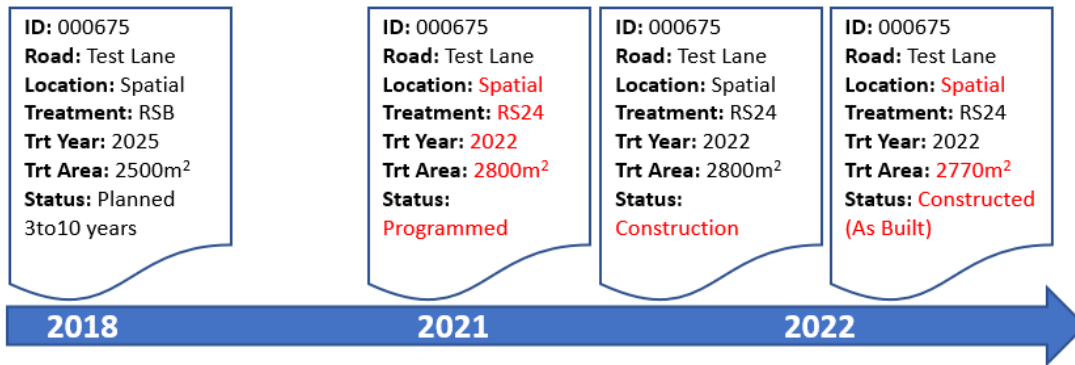

Figure 2: Renewal Activity Tracking Example
- **Status Tracking:** Each element (e.g. Fault, Condition or Activity) will be tracked through its life from identification through to completion/closing. A status flag will identify the key stage of the element at any point in time. For example (refer Figure 2 with changes in red), a renewals site may be identified on a pavement in 7-years' time, as this time draws nearer, the work site may change size, timing or treatment and this information will be captured against the same single Activity ID.